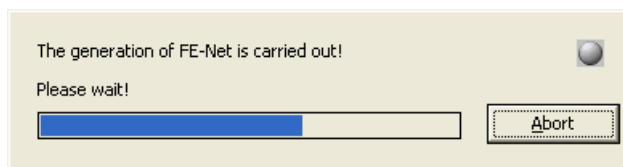
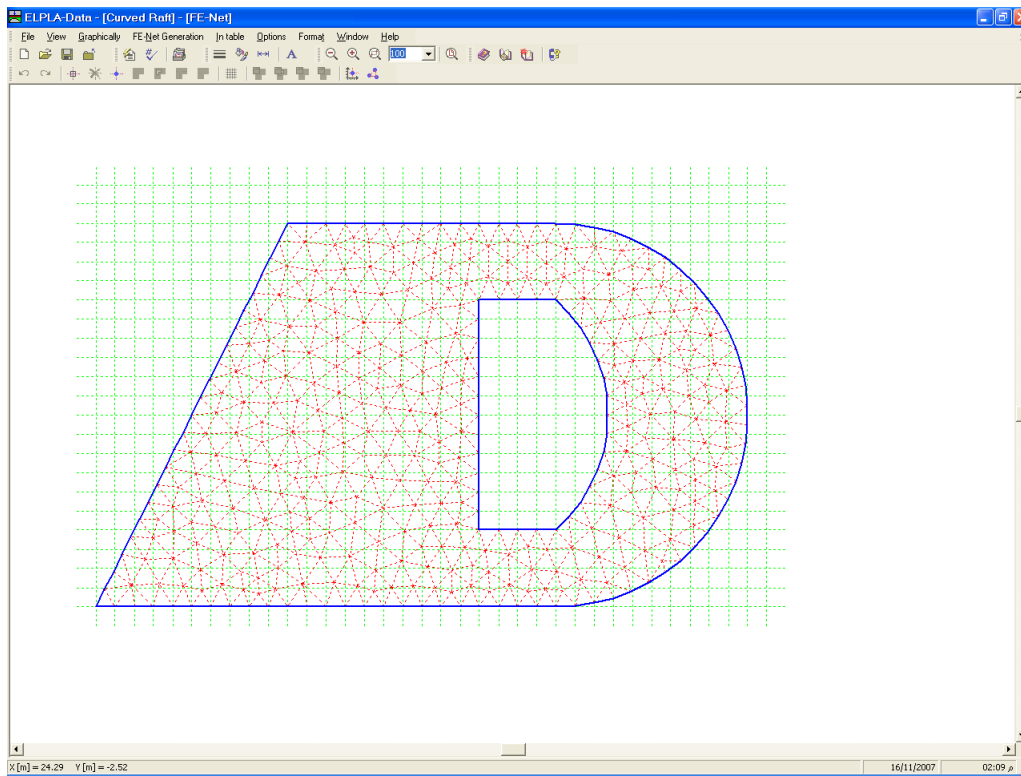

Figure 10-20 "FE-Net generation" progress menu
Figure 10-21 Final FE-Net of the raft
After clicking the "OK" button, FE-Net generation progress menu in Figure 10-20 appears in which various phases of the generation are progressively reported. After finishing the generation of the FE-Net and creating the raft FE-Net as shown in Figure 10-21, do the following two steps:
- Choose "Save FE-Net" command from "File" menu in Figure 10-21 to save the data of the FE-Net
- Choose "Close FE-Net" command from "File" menu in Figure 10-21 to close the "FE-Net" embedded program and return to the main window of *ELPLA-Data*